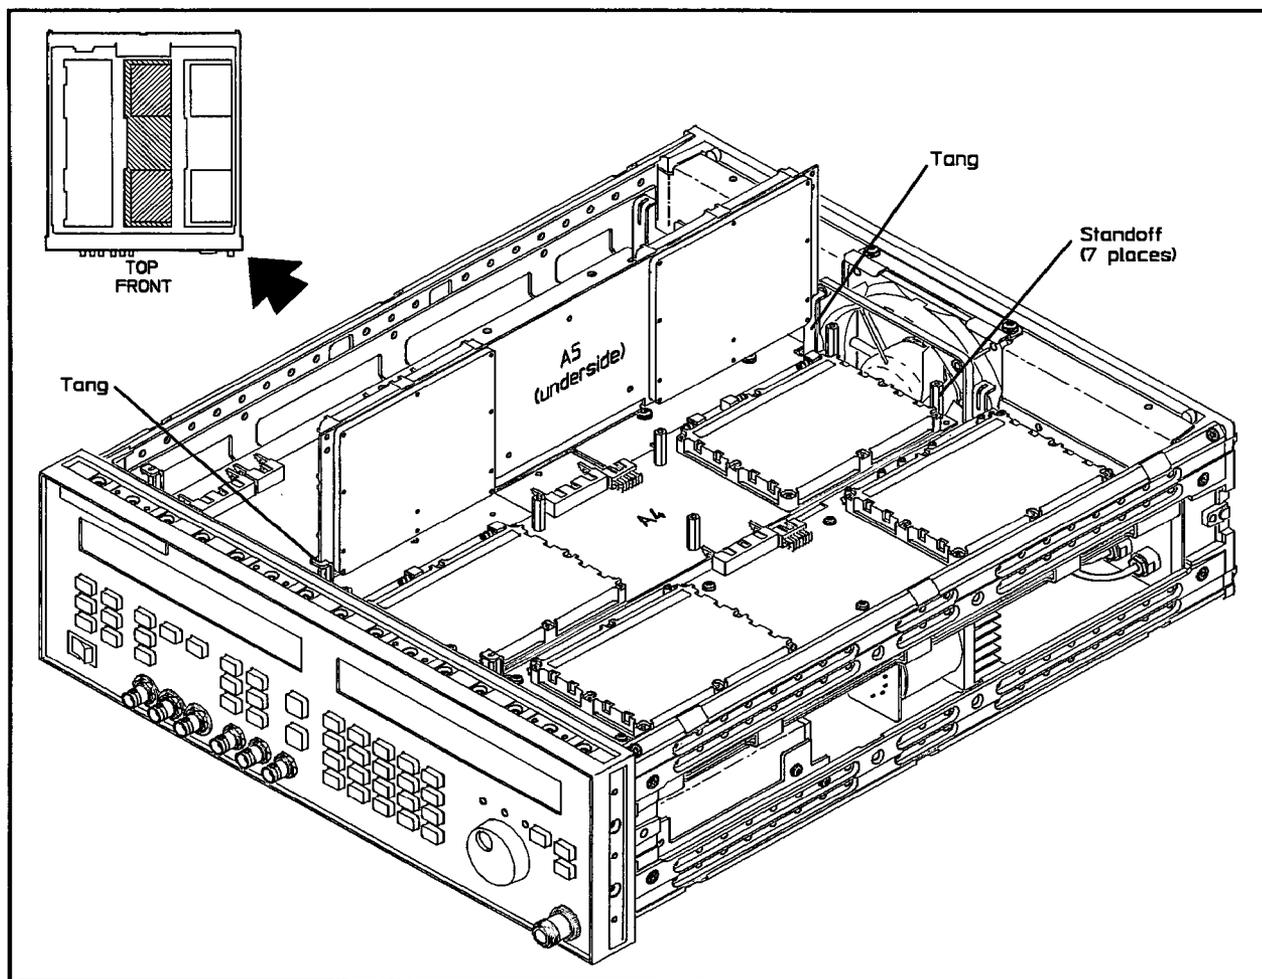

Figure 5-15. Divider and Modulation Board Service Position
4. Position the pulse/AM driver board assembly, A5, on the tangs as shown in Figure 5-15.